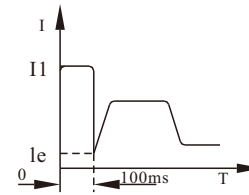
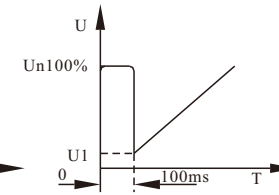

Figure 12
Figure 13
- b) Figures 12 and 13 show the output waveform of this mode. It is used in heavy-load applications where the motor cannot start due to high mechanical static friction. At startup, a high fixed voltage is applied to the motor for a short period to overcome static friction and initiate rotation, followed by current-limit (Figure 12) or voltage ramp (Figure 13) starting.